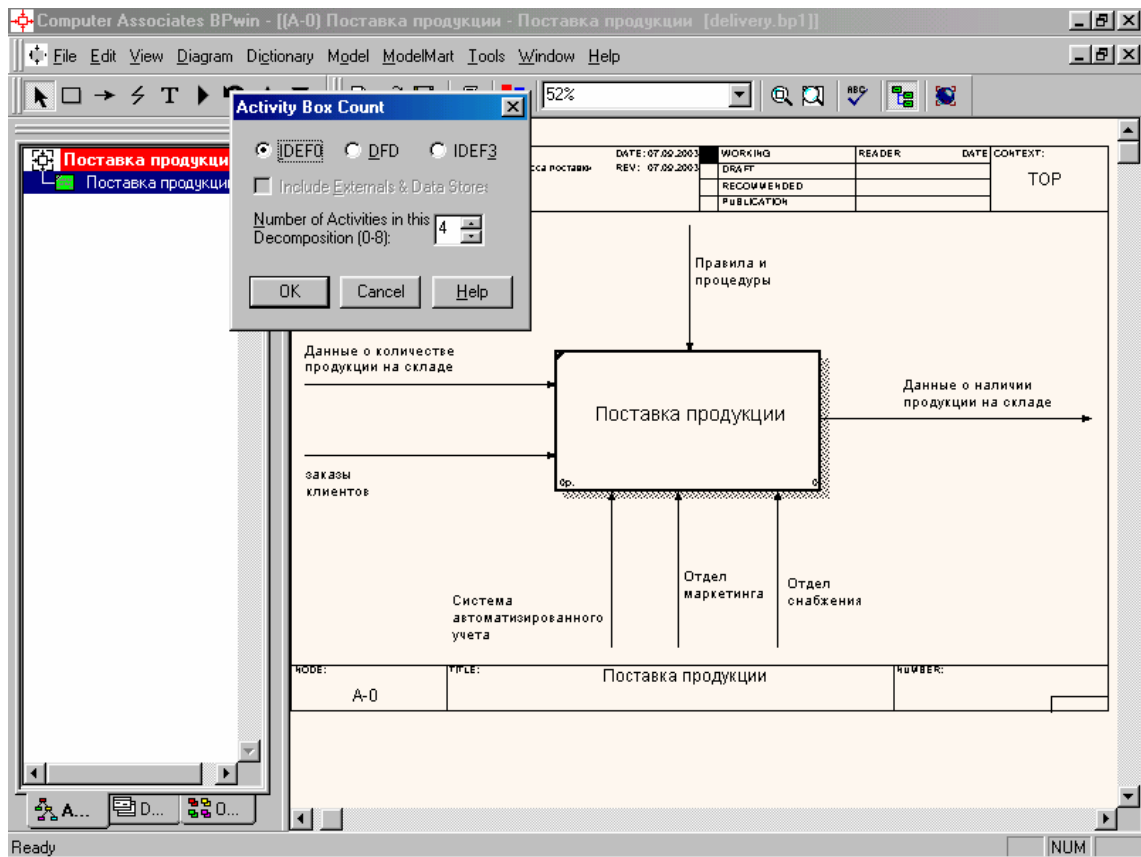

Figure 1.7
2. In the window "Activity Box Count" set the number of works in the decomposition diagram is 4 (Figure 1.7).